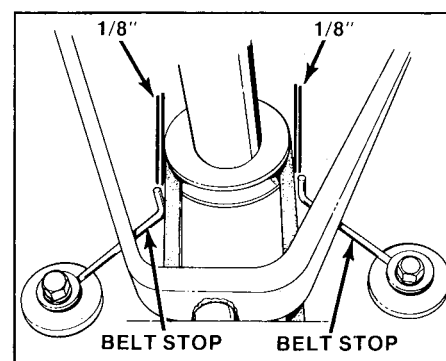

**Figure 32. Brake-Clutch Adjustment**
- Place the transmission in gear and release the parking brake. Move the brake rod (I, figure 32) back and forth to be sure there is no tension on the brake pads.
The clutch-brake pedal must be in up position. With one hand, push rod guide (C, figure 32) as far forward as slot (B) will allow while pulling rod (I) back with other hand. With rod guide in this position, tighten or loosen nut (A) until  $\frac{1}{4}$  inch of clearance is obtained between nut and end of spring (D).
- With the pedal up, push the idler pulley (F, figure 32) firmly against the belt. With the pulley in this position, the gap between nut (E) and the rod guide (G) should be  $\frac{7}{8}$  to 1 inch (22 to 25 mm). If not, tighten nut (E) to decrease gap or loosen nut to increase gap. Recheck measurement.
- Depress and lock the clutch-brake pedal. Loosen the setscrew in the set collar (H). Move the collar against the spring which is located between collar (H) and rod guide (G). Be sure spring is seated as far as possible over rod guide (G). Push the collar